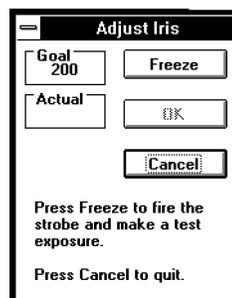

Figure 4-10. Adjust Iris Dialog Box
2. Wait for the Adjust Iris dialog box (Figure 4-10) to appear.